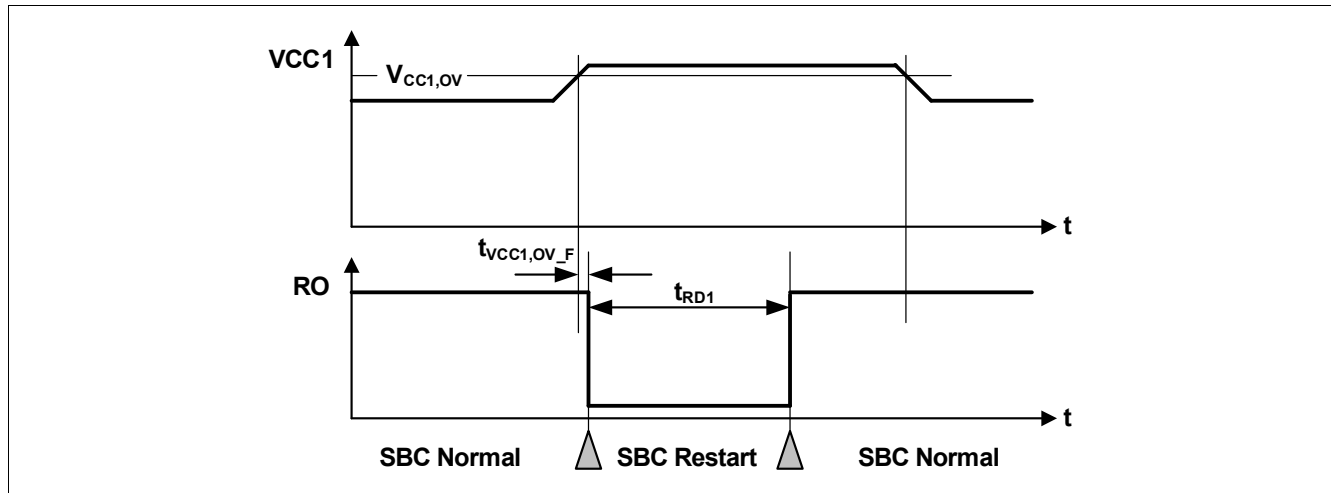

Figure 52 VCC1 Overvoltage Timing Diagram
- If the bit **VCC1_OV_RST** is set and **CFG_P** = '1', then SBC Restart Mode is entered. The FOx outputs are activated. After the reset delay time (t_{RD1}), the SBC Restart Mode is left and SBC Normal Mode is resumed even if the VCC1 overvoltage event is still present (see also **Figure 52**). The **VCC1_OV_RST** bit is cleared automatically;